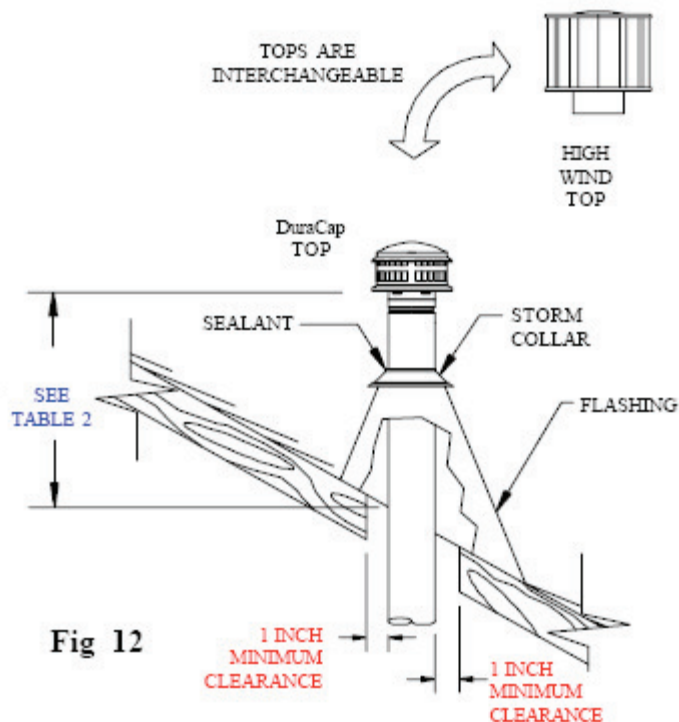

Fig 12
**clearance (air space) of 1 inch** between the **Pipe** and construction materials. Straight lengths of **pipe** are run up above the roof. (see table 2) A **Roof Flashing** is placed down over the **pipe**, and adjusted so it fits tightly against the roof, with the **Pipe Section** held in a position maintaining the **1 inch minimum clearance** from combustibles. The **Flashing** is then nailed to the roof. The roofing material (shingles, asphalt paper, etc.) should overlap the top edge (up-hill side) of the **Flashing**. A non-hardening sealant should be used around the edges of the flashing base where it meets the roof, as shown in Figure 12. Non-hardening sealant is placed around the joint between the **Flashing** and the vertical **Pipe Section** and the **Storm Collar** is then placed over this joint, to make a watertight seal. Add sufficient **Pipe Sections** to attain the height specified in Table 2. To connect the Top to the pipe, hold Top by its collar, slide collar over locking lugs of pipe, and twist-lock clockwise. **Tops** of diameters greater than 16 inches do not twist-lock, but are affixed with sheet metal screws.